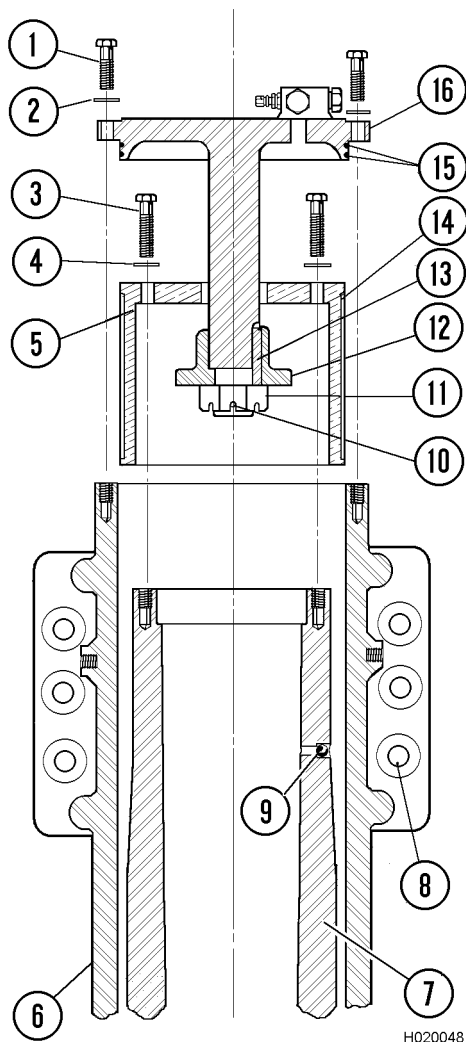
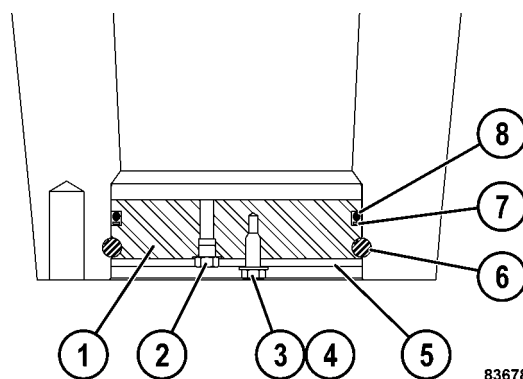

FIGURE 2-12. PISTON ROD REMOVAL
FIGURE 2-13. PISTON PLUG
1. With the suspension held in a vertical position (end cap up), remove capscrews (1, Figure 2-12) and hardened washers (2).
6. Attach a lifting device to piston (7) and carefully lift it out of the housing.
8. If piston (7) has removable plug (1, Figure 2-13) at the bottom:
- a. Remove capscrew (3), flat washer (4) and retaining plate (5). Push plug (1) to the inside just far enough to remove retaining ring (6).
- b. Re-install cap screw (3) and use a slide hammer to remove the plug from the piston. Remove backup ring (7) and O-ring seal (8) from the plug.
1. If piston (7, Figure 2-12) has removable plug (1, Figure 2-13) at the bottom:
- a. Thoroughly lubricate O-ring (8) and backup ring (7). Install new O-ring seal (8) and backup ring (7) on the plug. Use a rubber mallet to seat the piston plug.
- b. Install plug (1) into piston just far enough to expose retaining ring groove. Install retaining ring (6). Install retaining plate (5), flat washer (4) and cap screw (3). Tighten the cap screw to **122 N·m (90 ft lb)**.
3. Install new O-rings and backup rings (15, Figure 2-12) in the end cap grooves. The backup rings must be positioned toward the flange on end cap (16).
4. Install new upper bearing (14) on upper bearing retainer (5).
5. Slide the upper bearing retainer assembly over the rod portion of end cap (16).
6. Install key (13) and piston stop (12) on the end cap rod. Make sure that the piston stop is fully seated against the rod shoulder.
7. Install nut (11) against the piston stop. Tighten the nut 1/2 turn further until the hole for roll pin (10) is in alignment. Install roll pin (10).
8. Attach a lifting device to the top side of the end cap assembly. Lower the end cap assembly onto piston (7). Insert steel balls (9) in the holes in the piston before fully seating upper bearing (14) on top of the piston. A small amount of petroleum jelly will prevent the balls from dropping out during assembly.
9. Install upper bearing retainer (5) onto the piston. Secure the upper bearing in place with new capscrews (3) and hardened washers (4). Tighten the capscrews to **678 N·m (500 ft lb)**.